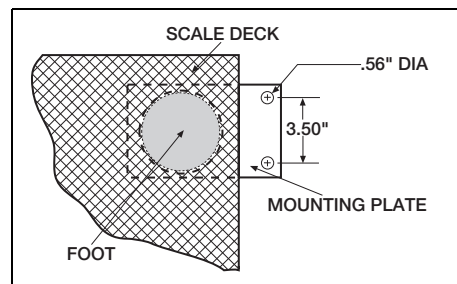

Figure 2-3. Mounting Plate Installation
3. Lower the scale back to the floor, and position the plates as shown in Figure 2-3 so that the bolt down holes are accessible from above.